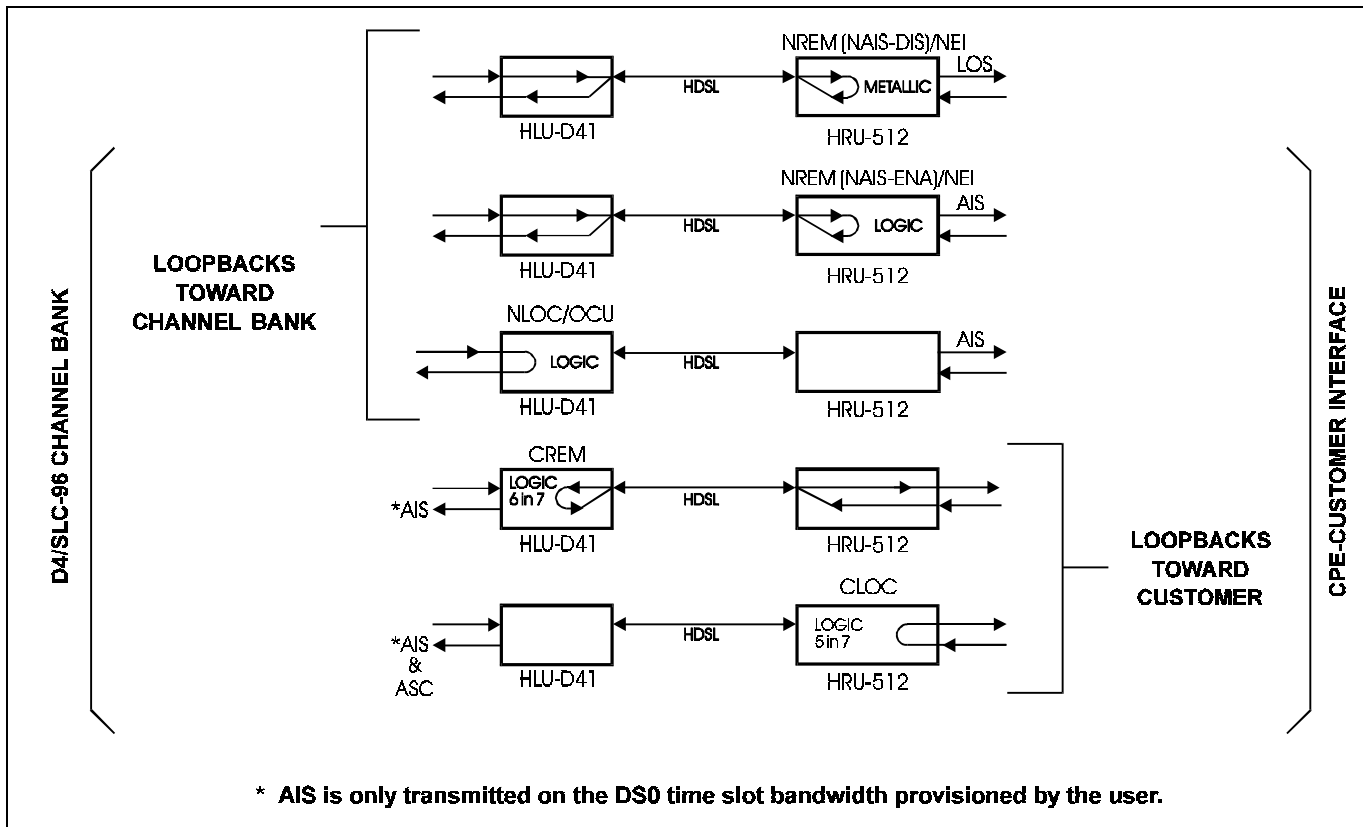

Figure 7. HiGain-FT1 Loopback Configurations.
13.03 The HLU-D41 detects the NEI latching loopback code and remotely commands the HRU-512 to activate its NREM loopback. The latching loopback code sequence can be applied to the HLU-D41 either through its front panel test access jacks or from a DDS test access unit located in the network. The NLOC loopback can be activated by the OCU latching code sequence. The loopback locations are shown in Figure 7. Table 8 describes the different ways each loopback can be activated and released.